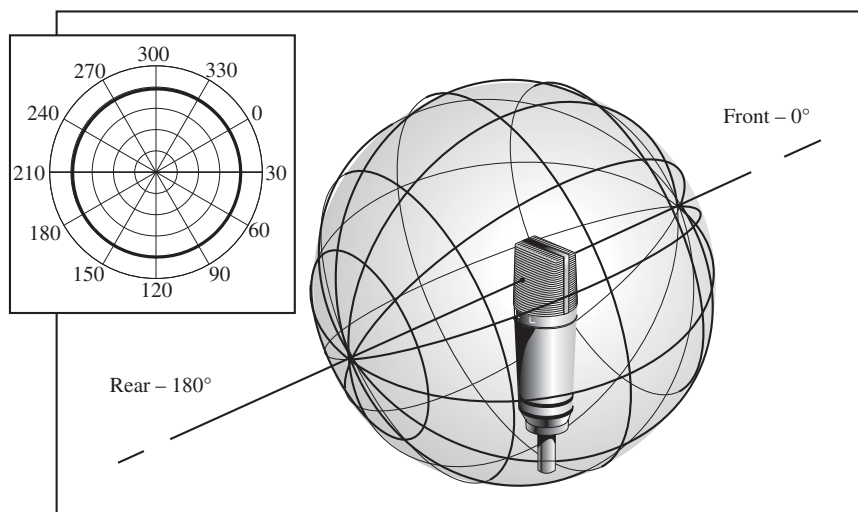

FIGURE 3.8
- **What is an omnidirectional pattern?** Omnidirectional patterns are so called because they pick up signal from all sides equally (Figure 3.8). As the frequencies rise, the omni pattern becomes more directional.